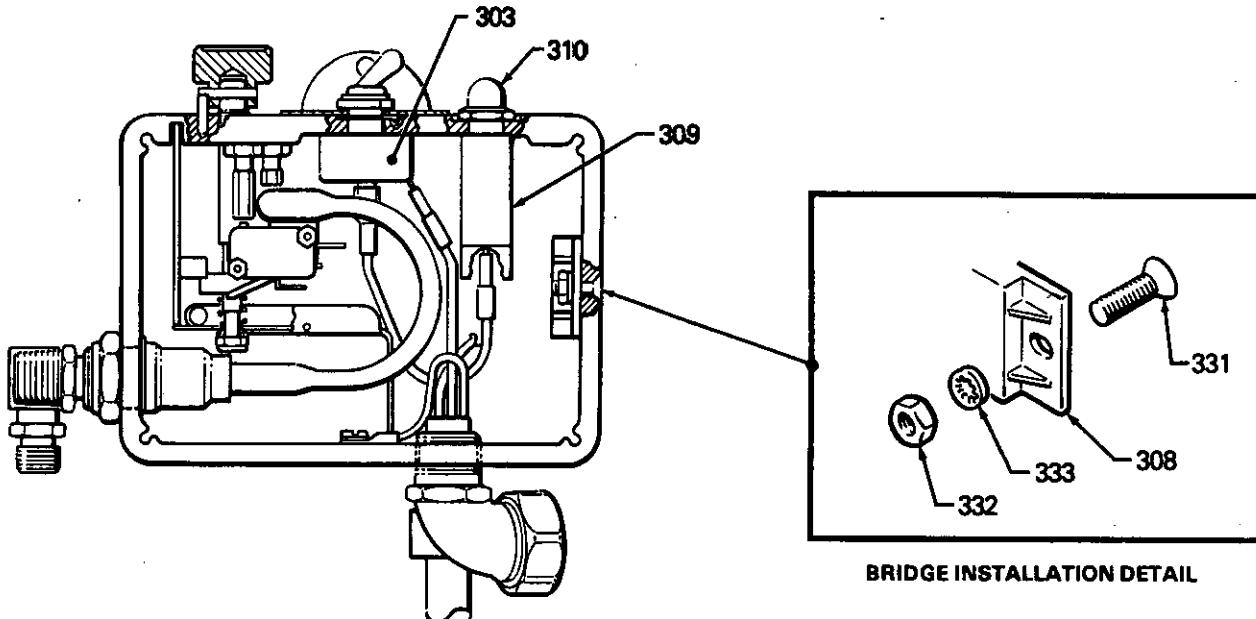

Fig 17.
## BRIDGE RECTIFIER REPLACEMENT (Refer to Fig 17)
2. Disconnect all wires from the bridge (308) at the appropriate terminals.
3. Outside the pressure control box on the right side are two screws (331). Loosen, but don't remove the screw near the back of the control box. Then loosen and remove the front screw. Slide the bridge out.
4. Slide the new bridge (308) into the box being sure the lockwasher (333) on the rear screw (331) is *IN FRONT* of the bridge. Refer to the Detail in Fig 17.
5. Install the front screw, lockwasher and nut (332).
The lockwashers (333) must be in front of the bridge to avoid overheating which will result in bridge failure. Refer to the Detail in Fig 17.
## CIRCUIT BREAKER REPLACEMENT (See Fig 17)